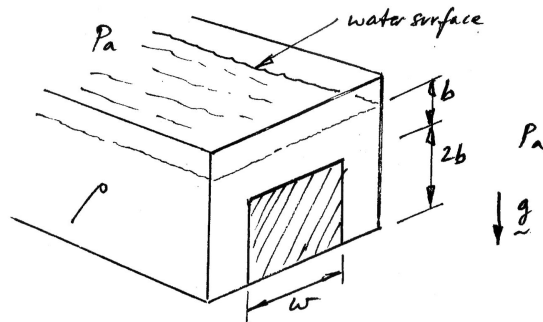

Figure P2.28
2.28 A rectangular door of width W and height $2b$ is placed in side wall of a tank containing water of density ρ and depth $3b$, as shown in Figure P2.28. The tank is open to the atmosphere. Find the resultant force due to the water acting on the door, and where it acts, in terms of ρ , W , g , and b . Show your coordinate system, and all working.